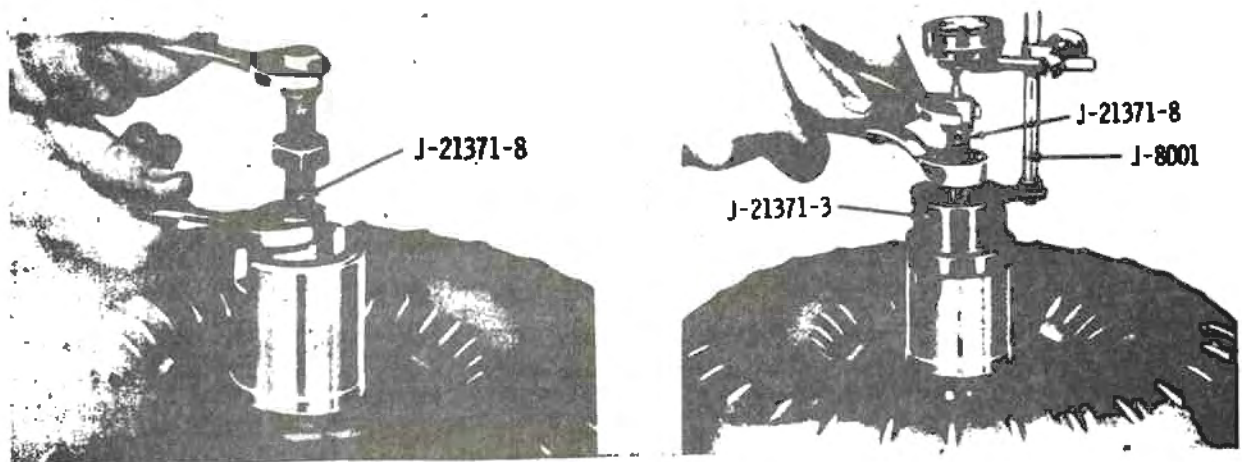

Fig. 3 Checking converter end clearance
2. Install collet end of Tool J-21371-8 into converter hub until it bottoms (See A, Fig. 3); then tighten its cap nut to 5 lb.ft. (0,691 kg.m.).
3. Install tool J-21371-3 and tighten hexagon nut to 3 lb.ft. (0,415 kg.m.) (See B, Fig. 3).
4. Install Dial Indicator J-8001 and set it at 'Zero', while its plunger rests on the cap nut of Tool J-21371-8 (See B, Fig. 3).